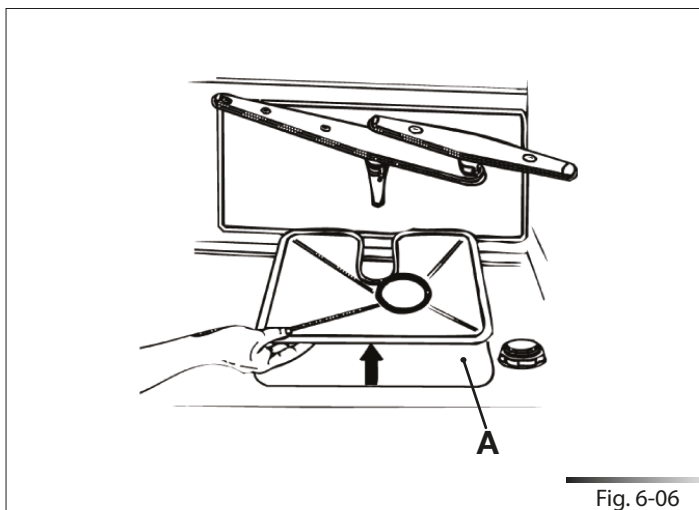

Fig. 6-06
- **When removing the filter**, take care that there are no food residues on it. If any residues fall into the washing pit (ref. A fig. 6-06), they might block hydraulic components or foul the spray arm nozzles.